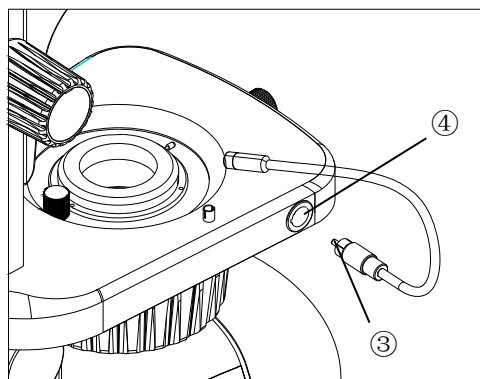

Fig. 4
2.2.5 Install LED lighting(Fig. 4)